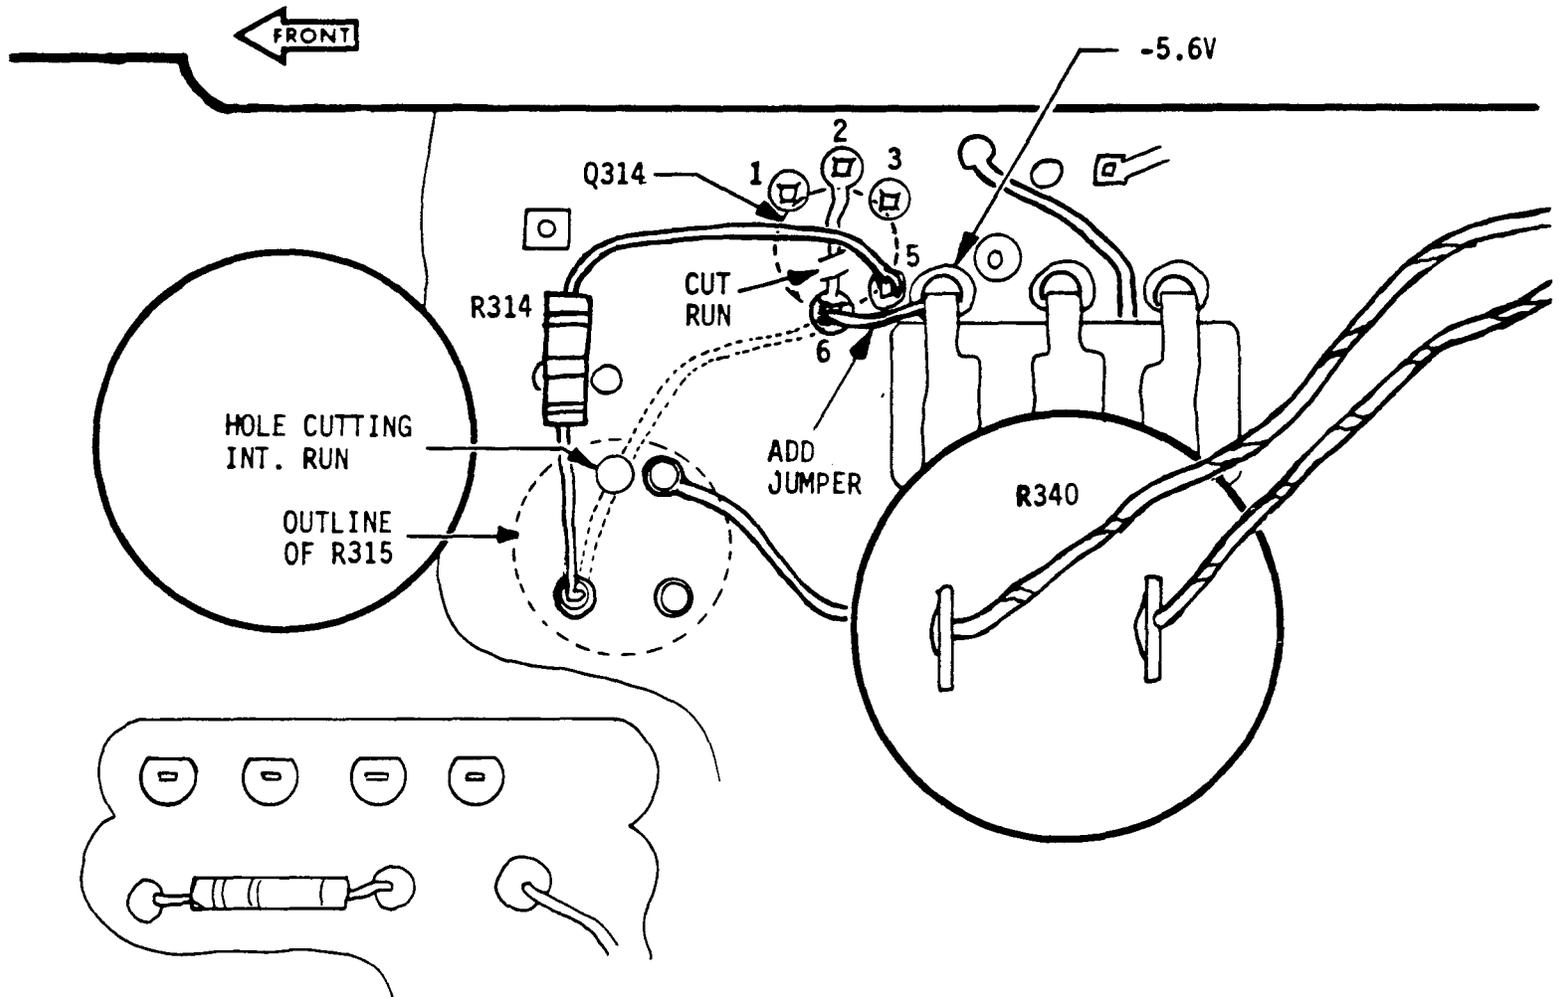

Fig. 3. Partial View - Back (Solder Side) of Input Circuit Board.
**Make the following changes on the back (solder side) of the Input circuit board. Refer to Fig. 3.**